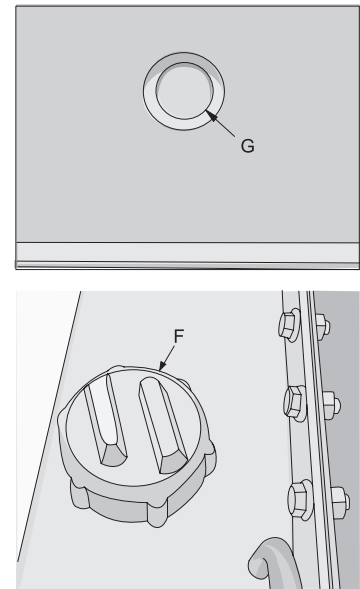

Figure 4-18
13. Hydraulic tank (See Figure 4-18)
- Put the blade and the ripper on the ground horizontally, stop the engine, and wait for 5min to check the oil level. If the oil level is not within the red circle in the Observation Window (G), replenish the hydraulic oil to the oil tank via the Oil Injection Port (F).